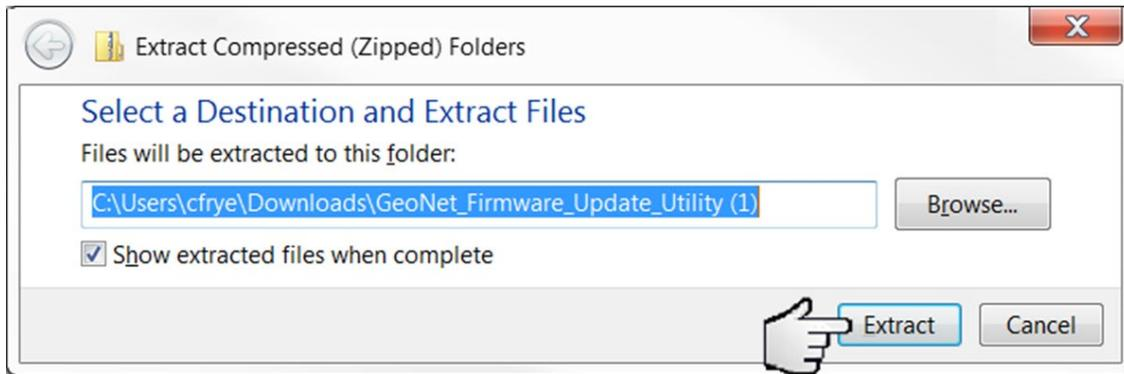

Figure 30 - Select Destination, then Click Extract
11) Select a destination for the files and then click “Extract” (Figure 30).